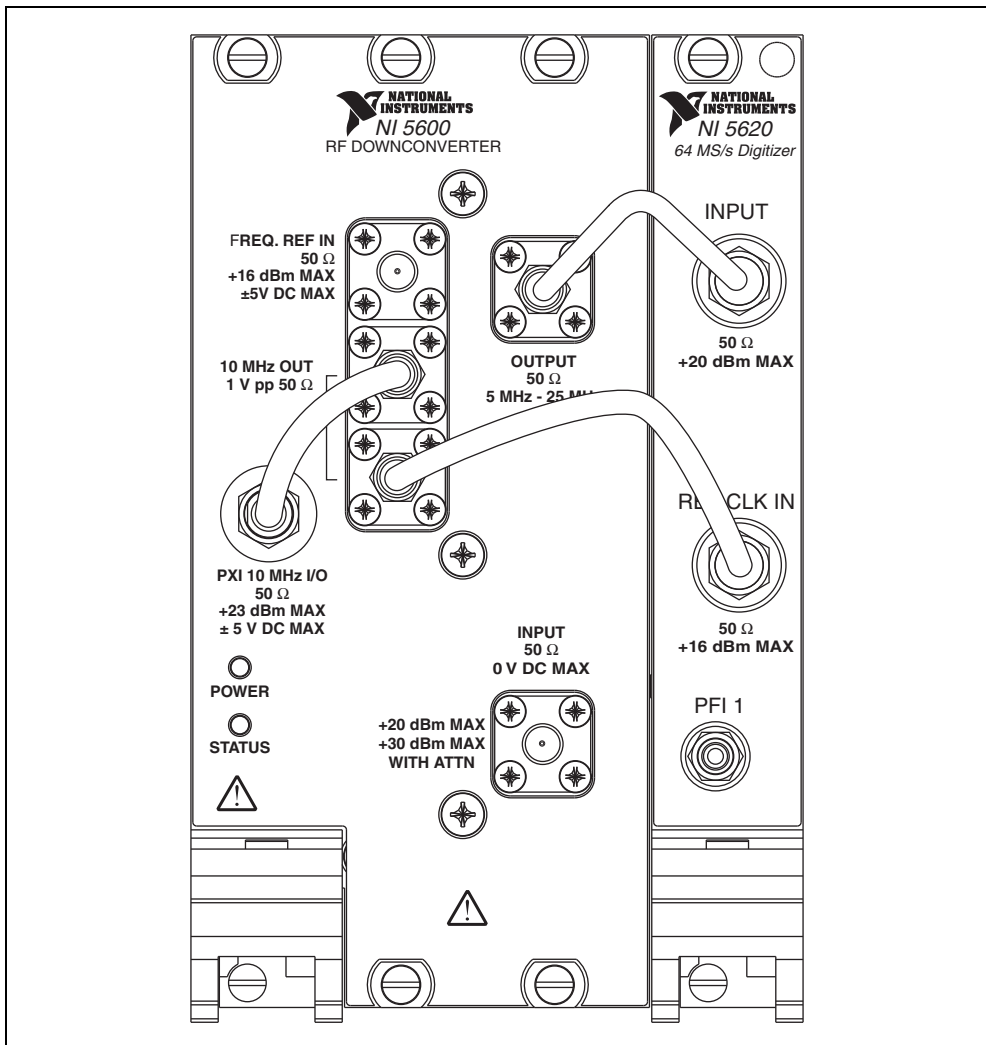

Figure 3. Interconnection of Devices with Included NI 5660 Cables
The NI 5600 and NI 5620 interconnect through the module front panels. Complete steps 1 through 6 to interconnect the RF vector signal analyzer hardware module front panel connectors, as shown in Figure 3.
Note The semi-rigid cables must be installed so the bends point upwards, as shown in Figure 3.
4. Carefully tighten all SMA connectors to 1 N · m using an SMA torque wrench (not included), as shown in Figure 3. Tighten only until the wrench clicks.